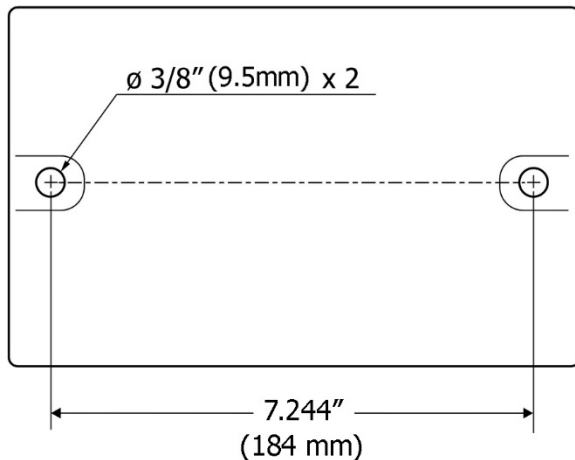

Figure 2: mounting holes
1. Align mounting holes on grinder with predrilled holes in a bench or grinder stand. Refer to Figure 2 for hole spacing.
This tool is intended for use on a circuit that has an outlet that looks like the one illustrated in **A**, Figure 2. An adapter, shown in **B**, Figure 2, may be used to connect this plug to a 2-pole receptacle if a properly grounded outlet is not available. The temporary adapter should be used only until a properly grounded outlet can be installed by a qualified electrician. *This adapter is not permitted in Canada.* The green-colored rigid ear, lug, and the like, extending from the adapter must be connected to a permanent ground such as a properly grounded outlet box.